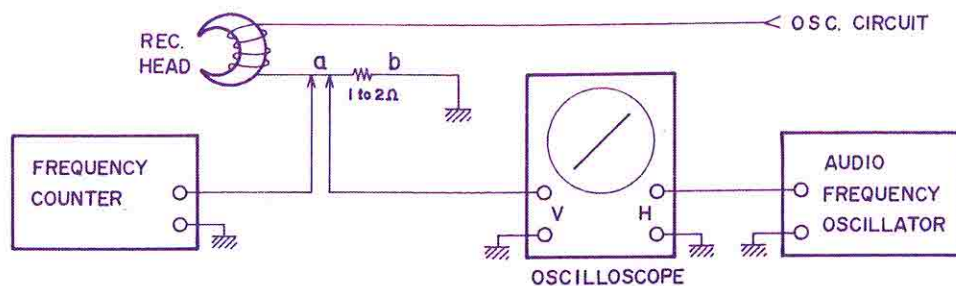

Fig. 22
- 1) As shown in Fig. 22, install a 1 to 2 Ω resistor in series with the recording head and connect both of these terminals (a) and (b) to the vertical input of the oscilloscope.
- 1) Connect a frequency counter to both (a) and (b) terminals as shown in Fig. 22. Set tape deck to recording mode and take a frequency counter reading.